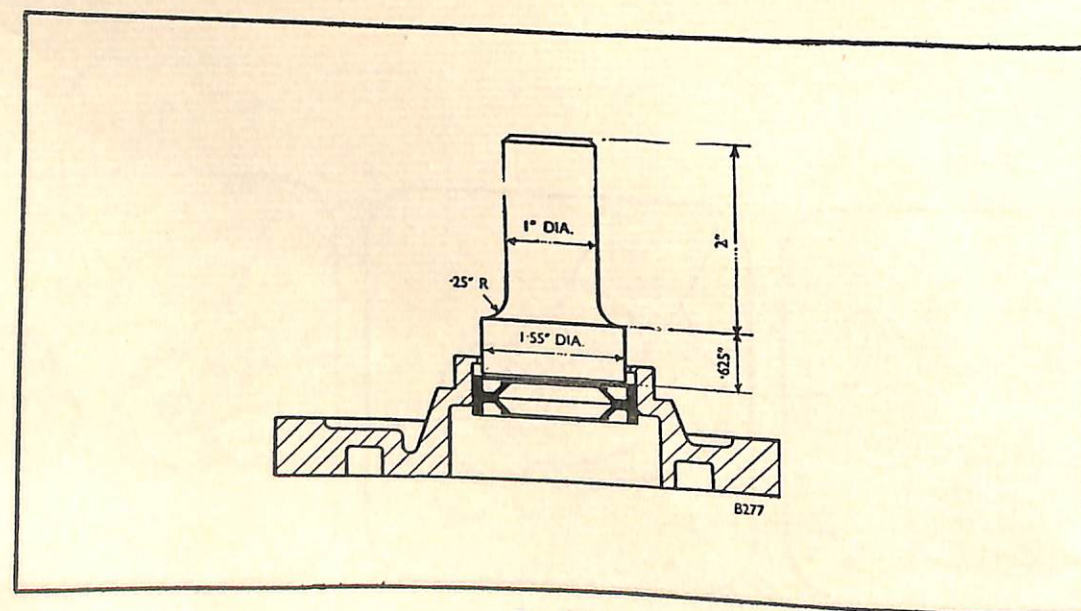

FIG. 76.
3. To remove seals from end covers use a punch as shown in Fig. 76.